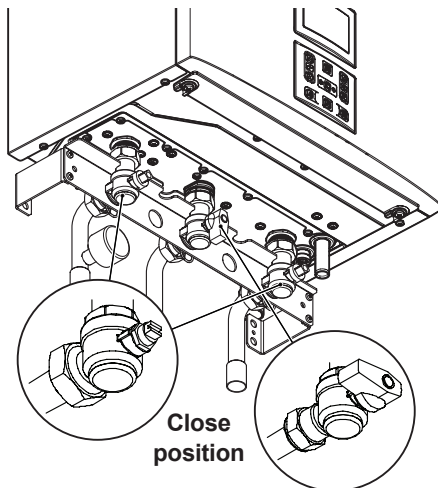

Fig. 2.24
- Shut off the gas supply cock and the valves for the water circuits fitted under the boiler Fig. 2.24.